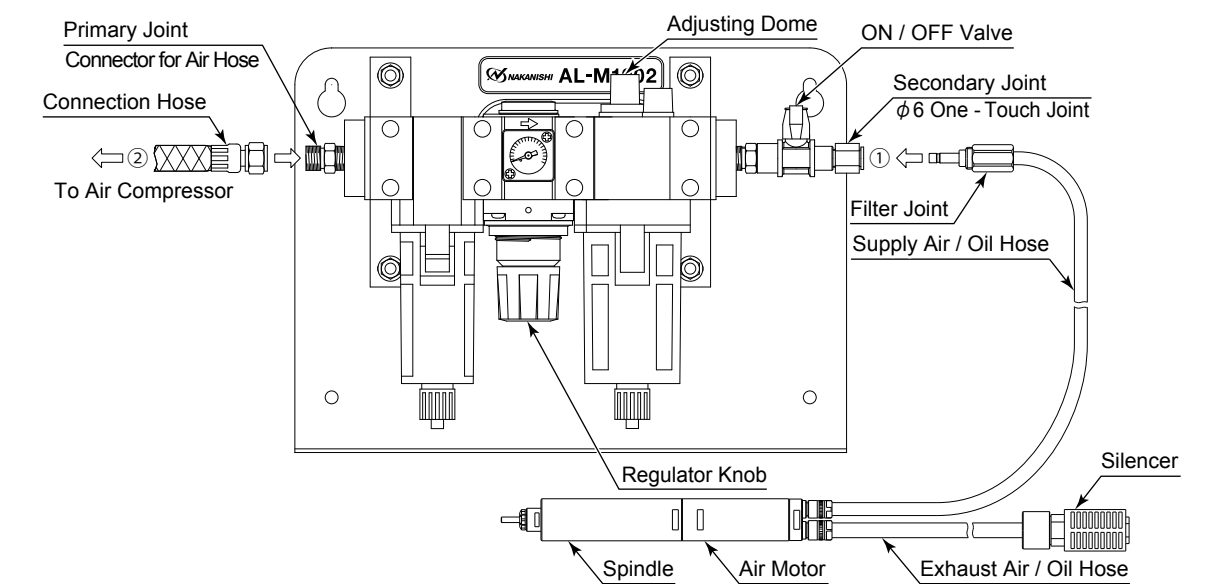

Fig. 6 Connection of Air Line Kit "AL - M1202 (Sold Separately)"
- Connect the Filter Joint of the supply air / oil hose to the Secondary Joint (ϕ 6 One - Touch Joint) of the Air Line Kit (Fig. 6 ①).
- Connect the Connection Hose (Air Line Kit's Standard Accessories) to the Primary Joint of the Air Line Kit and Compressor (Fig. 6 ②).